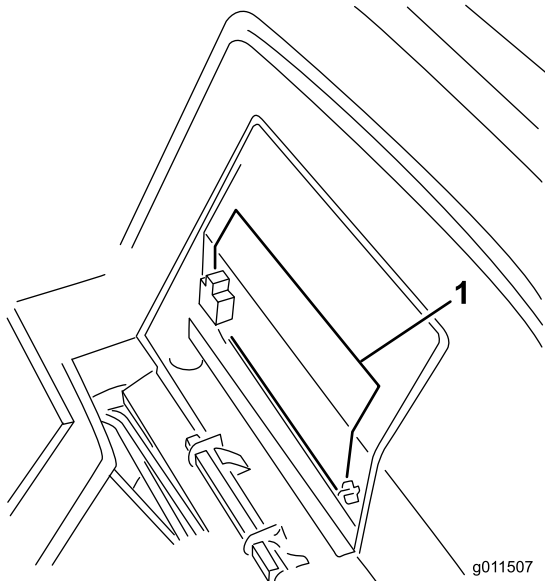

Figure 56
2. Remove the battery cover (Figure 56).